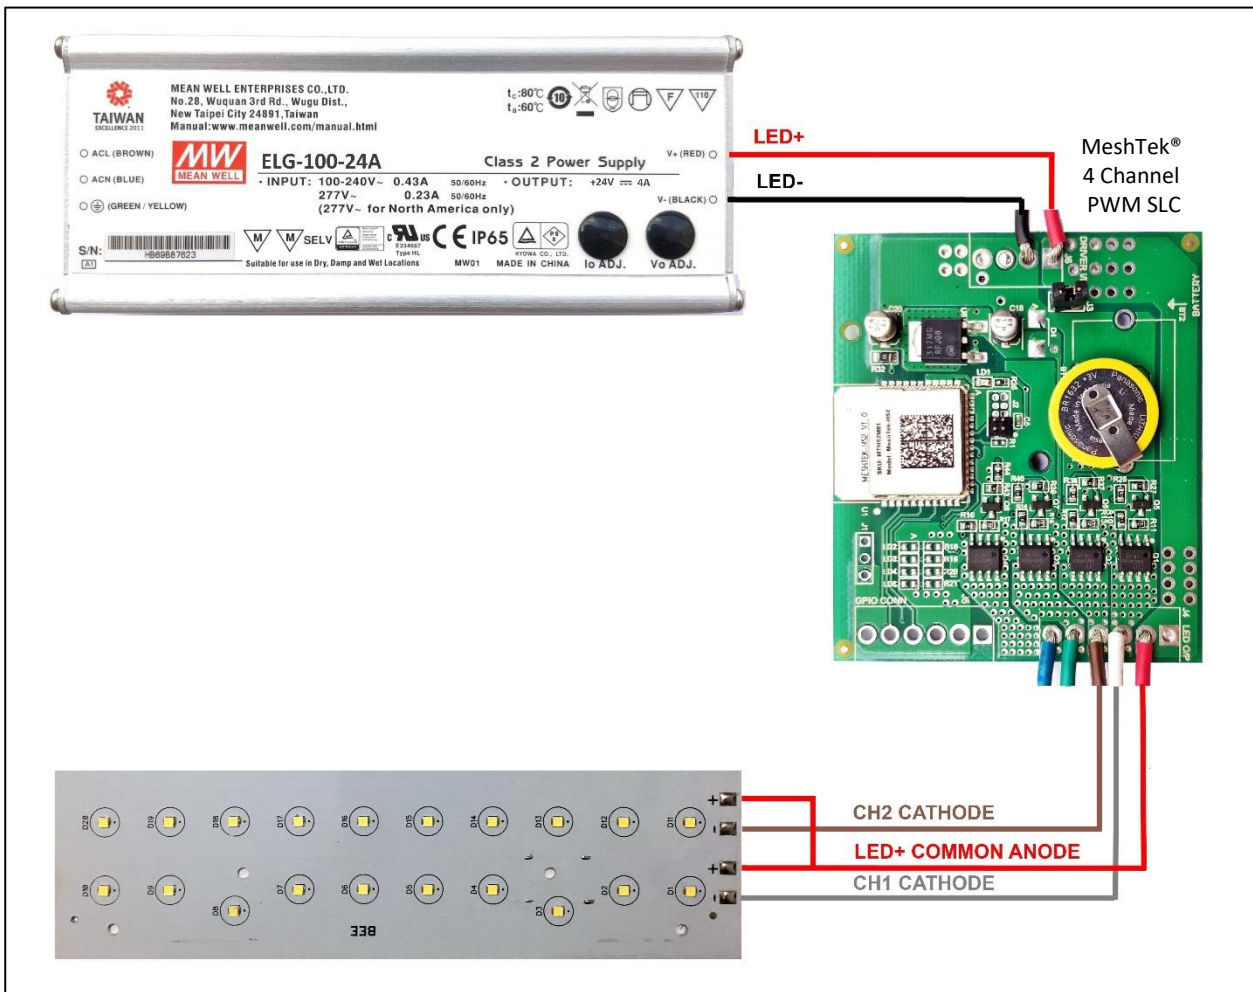

Figure 4-1 Application Setup
**If load consists of multiple LED chains (colored or non-colored) and individual LED chain control is required, then the LED chains should be connected in a common anode topology for proper operation. Refer to application setup shown in Figure 4-1*
Application setup for common anode topology LED driver PWM control is in Figure 4-1.
1. If the load consists of multiple LED chains (colored or non-colored) and individual LED chain control is required, then the LED chains should be connected in a common anode topology for proper operation. Refer to application setup shown in Figure 4-1